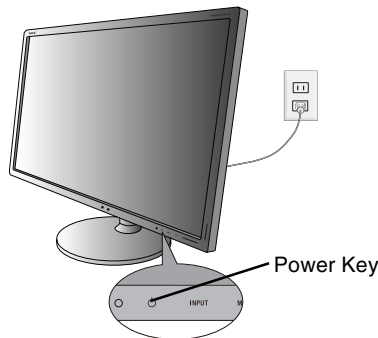

Figure C.1
7. Connect the power cord to the power outlet (**Figure C.1**).
8. Turn on the monitor with the front power key and the computer (**Figure C.1**).